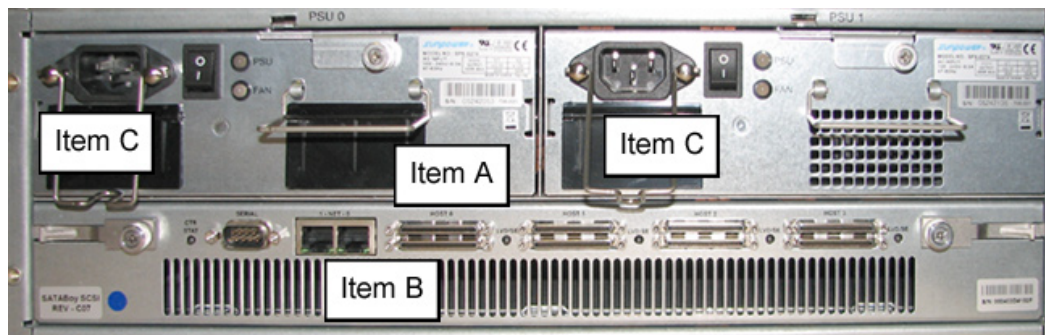

Figure 2 - Back of the Nexsan SATABoy
- C. Plug the other end of the SCSI cable into the storage device's upper *left* disk “0” (zero) channel (see Figure 2, Item A).
- D. Plug the other end of the CAT-5E crossover cable into the storage device's port “0” (zero) on the right (see Figure 2, Item B).
- E. Plug the storage device's AC power cords into the back of the unit (see Figure 2, Item C).